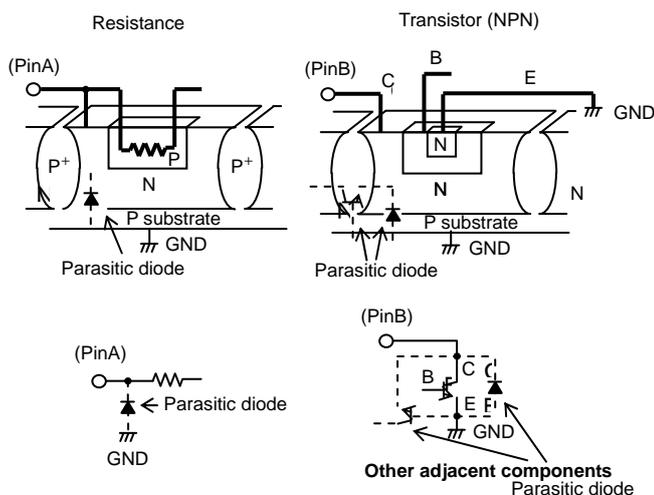

Fig.1 Simplified structure of a Bipolar IC
13. This IC is a monolithic IC which (as shown is Fig.1)has P+ substrate and between the various pins. A P-N junction is formed from this P layer of each pin. For example, the relation between each potential is as follows.